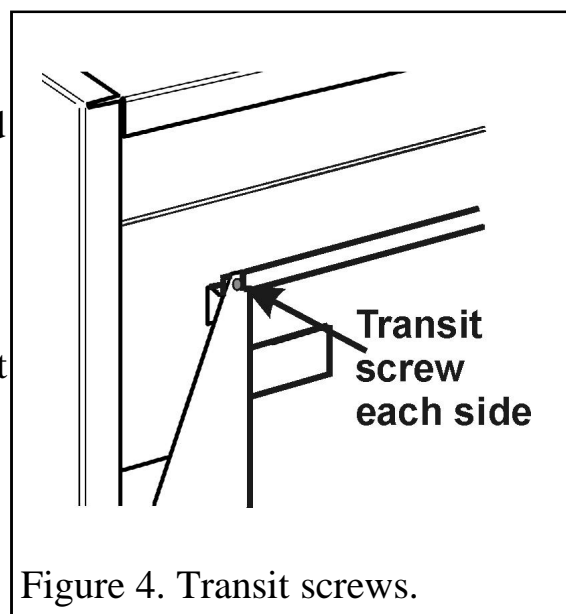

Figure 4. Transit screws.
5.3.2 Remove the two transit screws from near the top of the back panel wings (See figure 4).